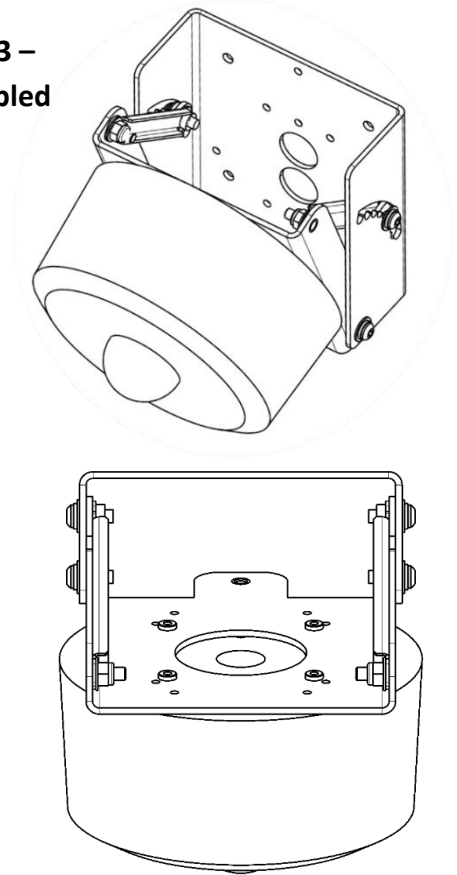

Figure 4 – Dimensions
14. Attach surface mount box to the BMT-75T45 mount with M6 screws using the holes shown in Figure 4.